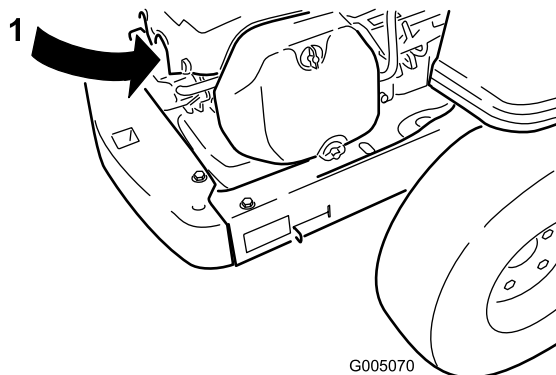

Figure 26
2. Pull the wire off of the spark plug (Figure 26). Clean around the spark plug to prevent dirt from falling into the engine and potentially causing damage.
3. Push the wire onto the spark plug (Figure 26).